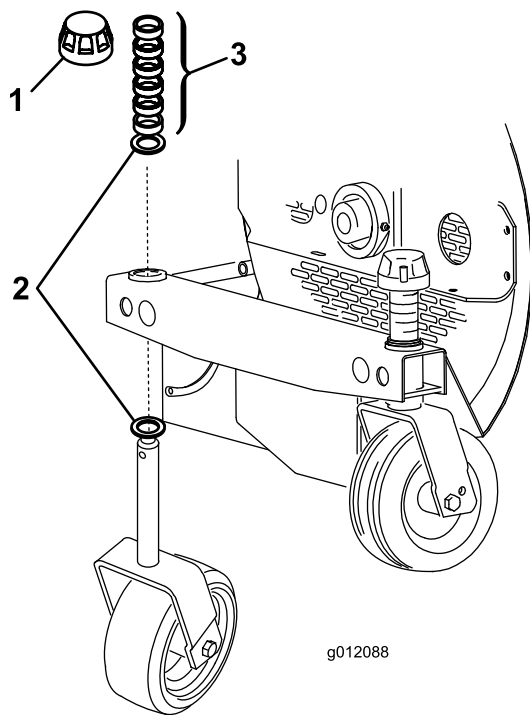

Figure 2
1. Remove the tensioning caps from the spindle shafts and slide off the castor wheel, spacers, and thrust washers (Figure 2).
2. Slide the spacers onto the castor spindle to get the desired height. Slide a thrust washer onto the spindle and push the castor spindle through the frame. Install another thrust washer and the remaining spacers onto the spindle and install the tensioning cap to secure the assembly (Figure 2).